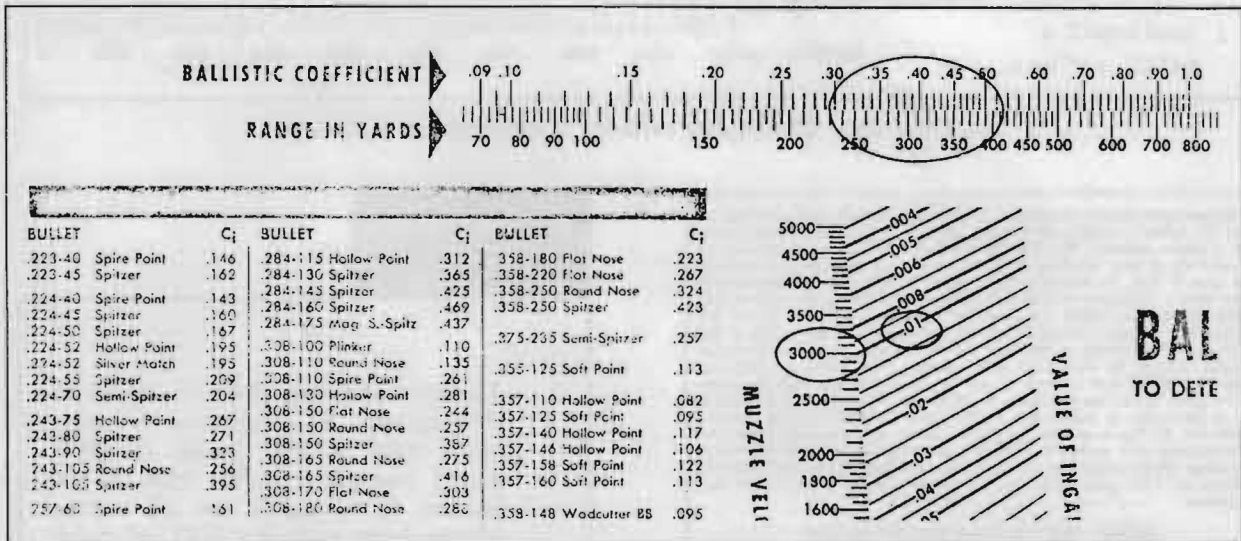

FIGURE 15 — Line up the B.C. (.387) with the range in yards (300) to get a muzzle velocity of 3,000 fps.
The first step (see Figure 15) is to line
up the B.C. (.387) with the range in yards (300). Adjacent to the second computer opening, below, you find your muzzle velocity, and opposite this figure an angled line bearing an “.01” designation. This line, the Value of Ingalls “A,” represents the trajectory curve or value for a bullet with a B.C. of .387 and a muzzle velocity of 3,000 fps at 300 yards (see Figure 15). Now turn the computer over.